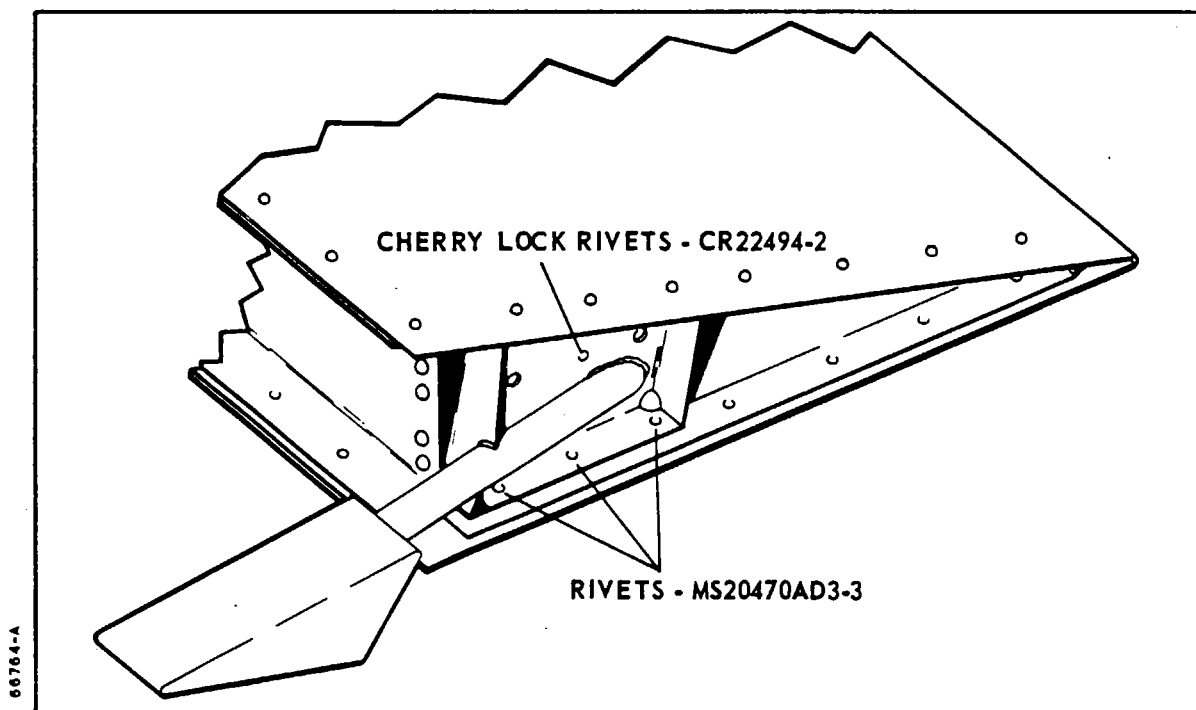

Figure 4-12. Balance Weight Assembly Installation
- d. Using the new bracket as a template, drill the two new holes in the rib. (Refer to Figure 4-12.)